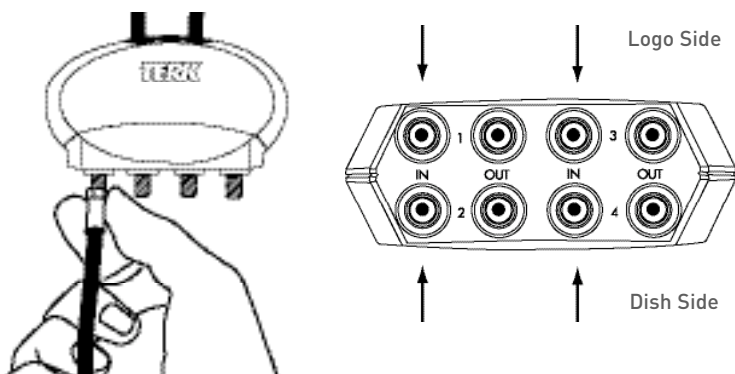

Fig 15.
3. Using 4 black 32" antenna cables, connect the IN 1, IN 2, IN 3, and IN 4, terminals of the TV44 to the "OUTPUT" or "TO RECEIVER" terminals on your multiswitch. See Fig 15.